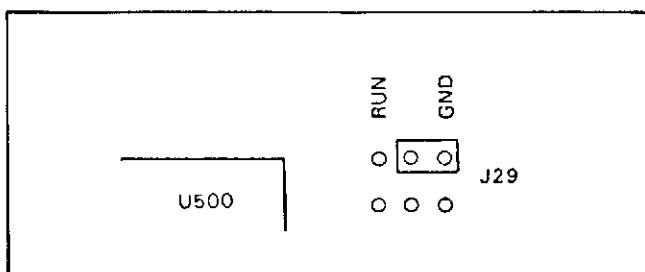

Figure 8-B-1. Test Jumper A20J29 in Ground Position.
3. Place jumper A20J29 in the GND test position, as shown in Figure 8-B-1 (Schematic 4).
- 3. Make sure jumper A20J29 is in the GND position (as shown in Figure 8-B-1), before doing the next step.